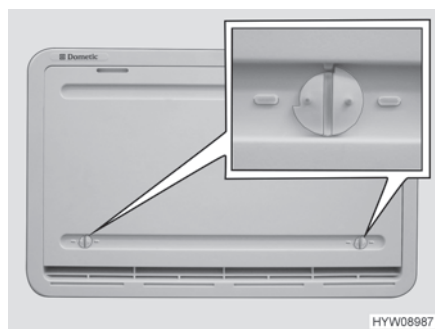

Fig. 157 Winter cover
- Winter cover** If the refrigerator is to be operated at low external temperatures, the manufacturer recommends the use of a winter cover (Fig. 157) for the refrigerator ventilation grills.
- Open both locks (Fig. 157) (groove in horizontal position).